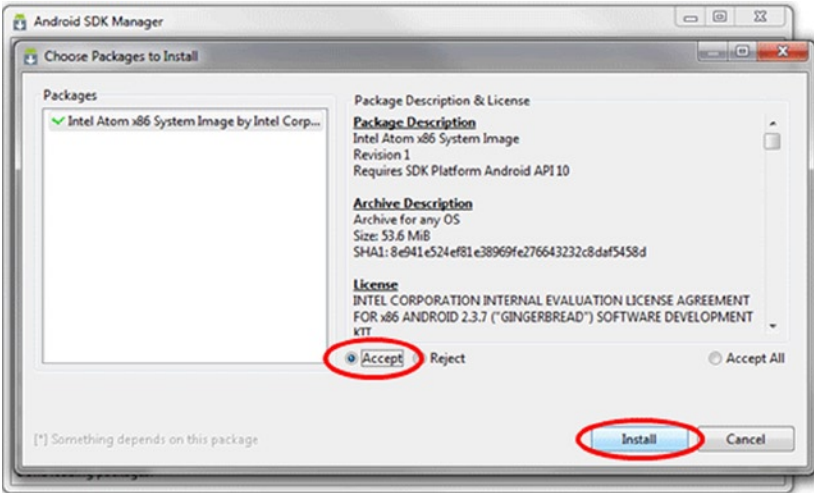

Figure 8-4. Android SDK Manager—Accepting Licensing Terms
4. Review the Intel Corporation license agreement. If you accept the terms, select the Accept option and click the Install button, as shown in Figure 8-4.